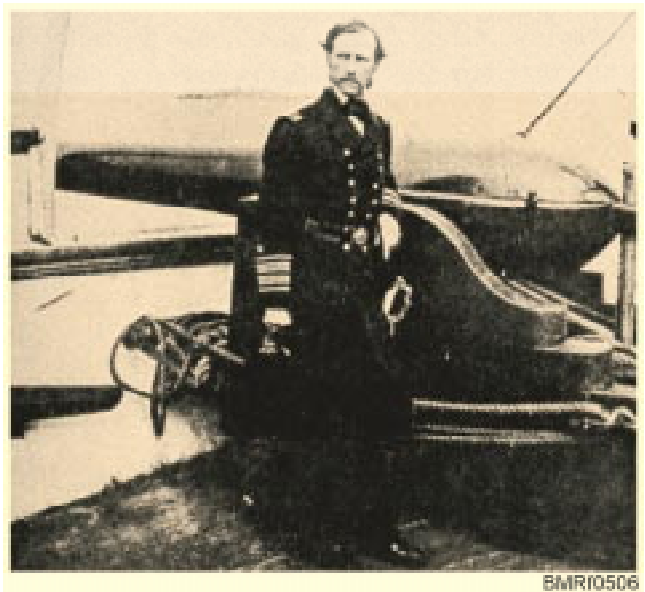

Figure 5-6.—Rear Admiral Dahlgren, standing next to one of the guns he designed, was a leading pioneer in modern naval ordnance and gunnery.
- John Dahlgren, the father of modern naval ordnance (fig. 5-6)